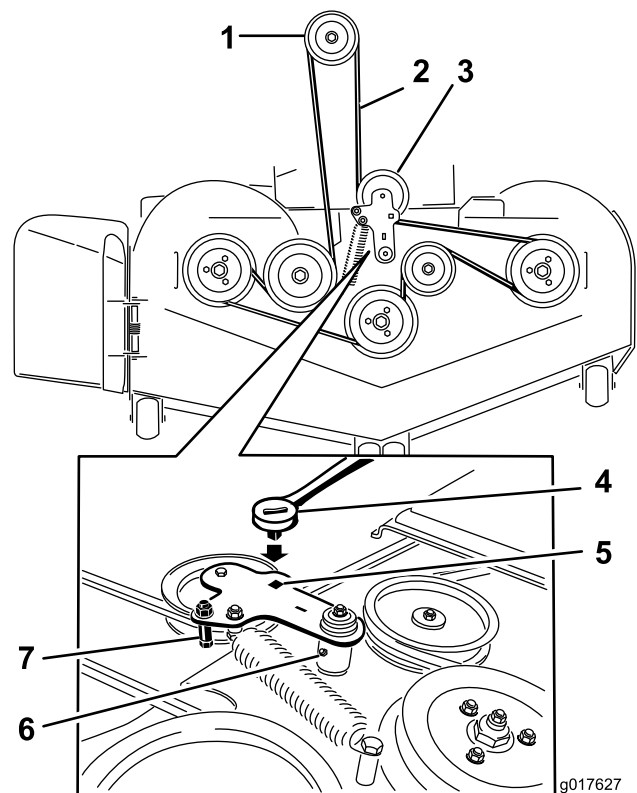

Figure 73
5. Use a ratchet in the square hole in the idler arm to remove tension on the idler spring (Figure 73).
7. Remove the belt guide on the spring-loaded idler arm (Figure 73).
9. Install the new belt around the mower pulleys and the clutch pulley under the engine (Figure 73).
10. Install the belt guide on the idler arm (Figure 73).
11. Using the ratchet in the square hole, install the idler spring (Figure 73).